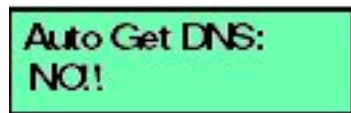

Figure 3.6. LCD Panel (Auto Get DNS)
4. Use the arrow keys as described in step 2 and select **YES** to use DHCP, then press **ENTER**. The following message displays (Figure 3-6):